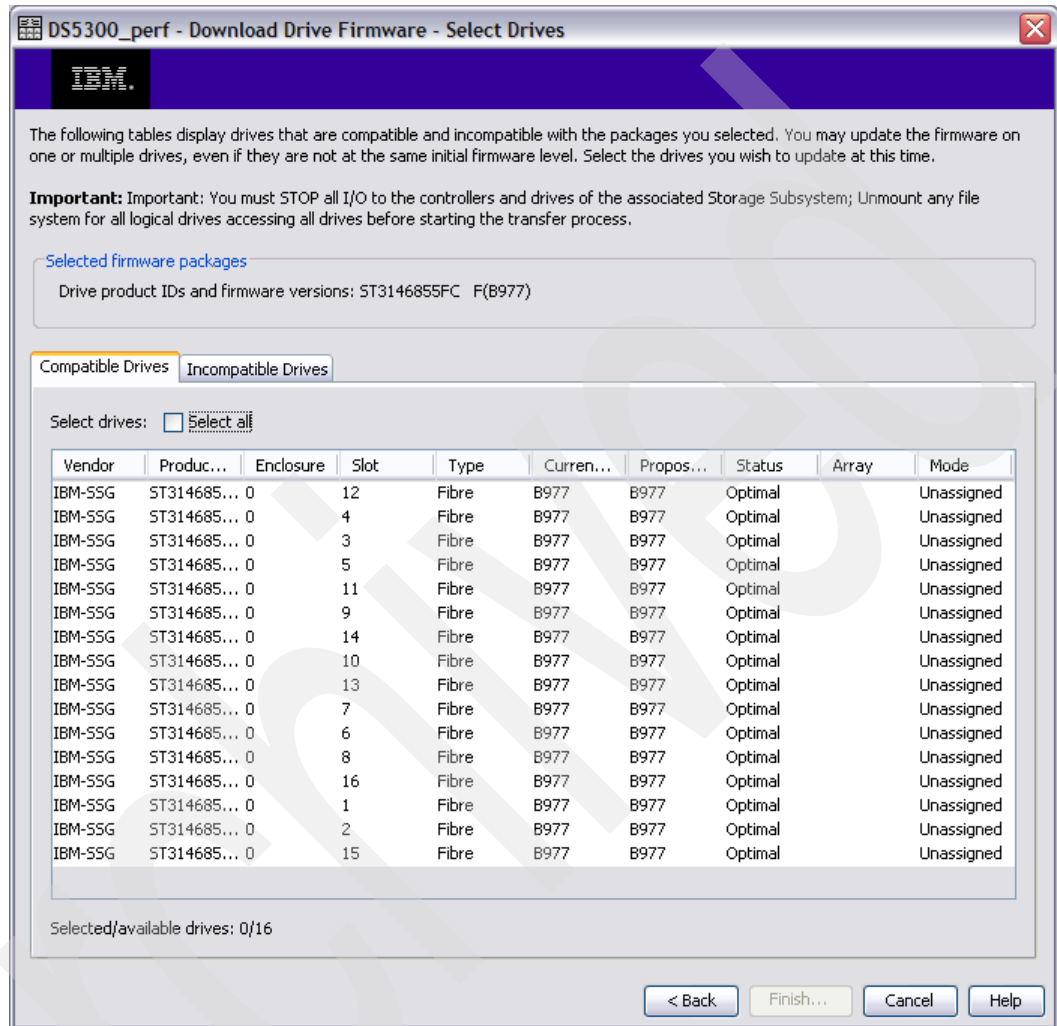

Figure 7-27 Selecting drives to upgrade
- If you click **Next**, a new window opens showing all the drives with the current and proposed firmware. We had one type of drive that did not require an upgrade, because the firmware was on the same level, as shown in Figure 7-27. Select the drives you want to upgrade and click **Finish**.